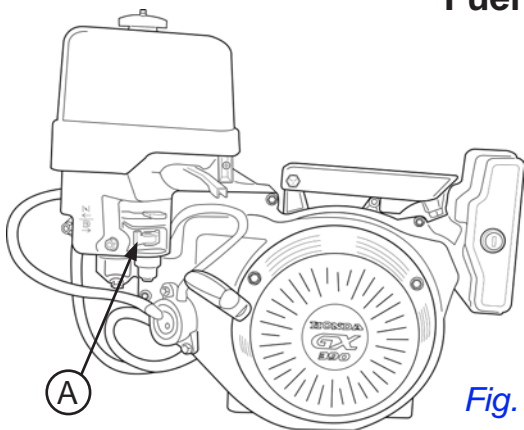

Fig.1
DANGER: Balewrappers equipped with 13hp Honda GX390 engine must have fuel valve (A) shutoff before transporting to avoid fuel spillage and engine damage. See Fig.1.